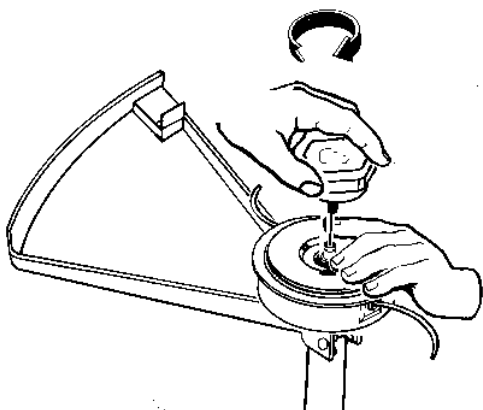

Fig. 19
10. Continue to apply pressure to the spool until the knob can be threaded clockwise onto the spindle. Tighten the knob securely by hand (do not use any other instrument) (Fig. 19).